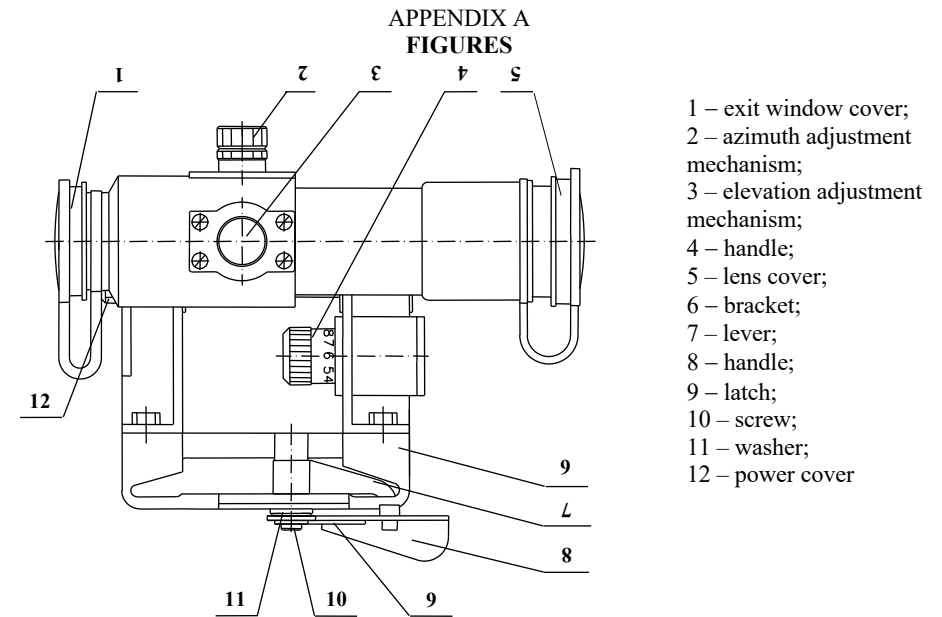

Figure A.1 – Image of the sight
The sight is based on a metal case in which assemblies and parts are mounted. The appearance of the sight is shown in Figure A.1 (Appendix A).
The sight is mounted on the weapon by the device consisting of a bracket 6 (Figure A.1), a screw 10, a handle 8 for turning the screw 10, a lever 7, a washer 11 and a latch 9 for mounting of the handle 8 on the screw 10. The sight is fixed on the weapon’s seat “dovetail” strap, located on the side surface of the receiver by turning the handle 8 forward (towards the lens) until the lever 7 stops in the bracket 6 and the handle 8 is fixed with a lateral latch. The clamping force is adjusted by reinstalling the handle 8 on the screw 10.
A screwdriver is prescribed to remove the latch 9 (Figure A.1) when adjusting the clamping force of the bracket.
- open the battery compartment cover 12 (**figure A.1**);
Remove the cover 5 (Figure A.1) from the lens and cover 1 from the exit window.